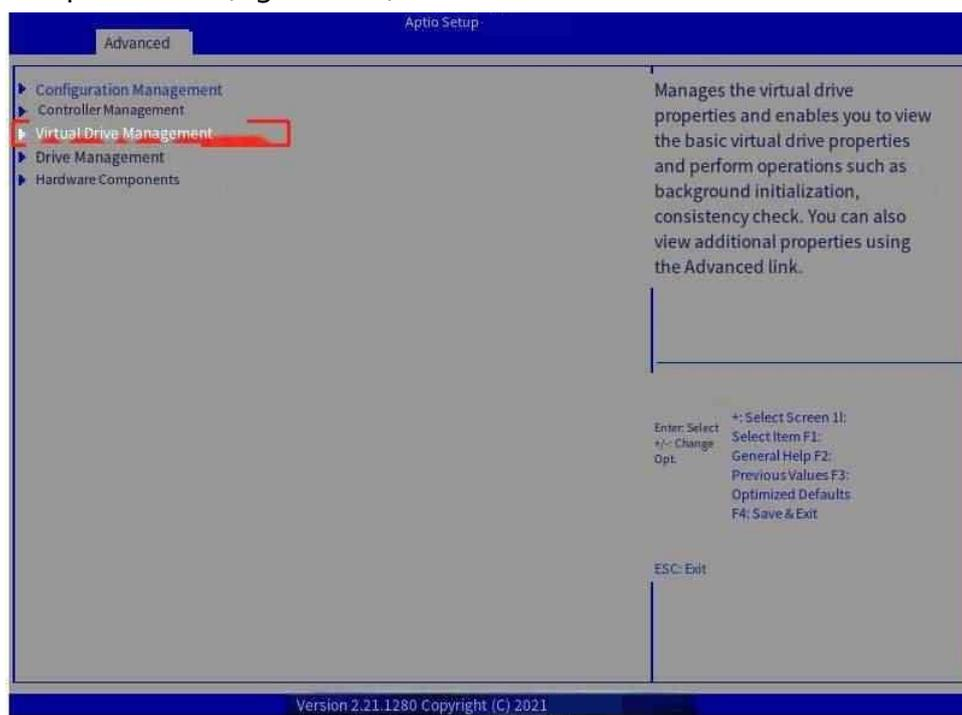

Figure 7-18 RAID home screen
Step 4: Press ESC to go back to the upper screen, select Virtual Drive Management and press Enter (Figure 7-18);